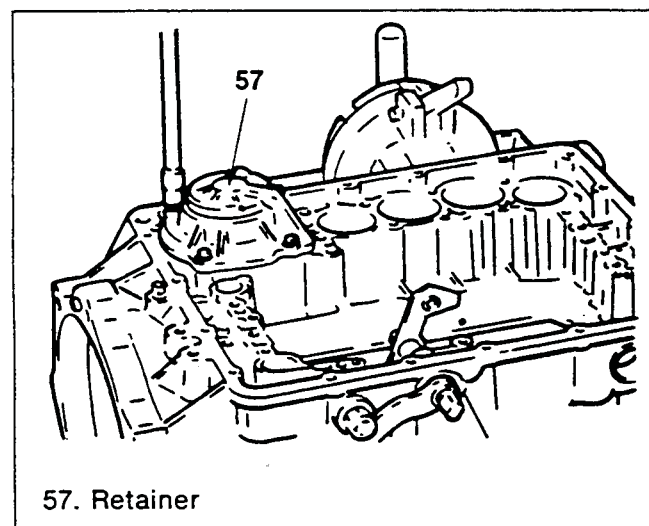

Figure 245. Band Servo Retainer Installation
4. Install the retainer and fasten it with bolts (figure 245).